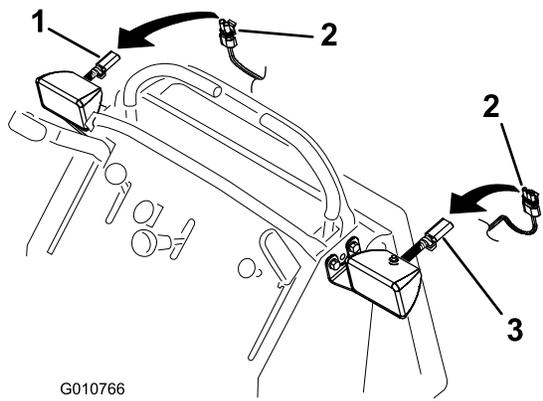

Figure 5
10. Plug the wire harness into the lights (Figure 5).